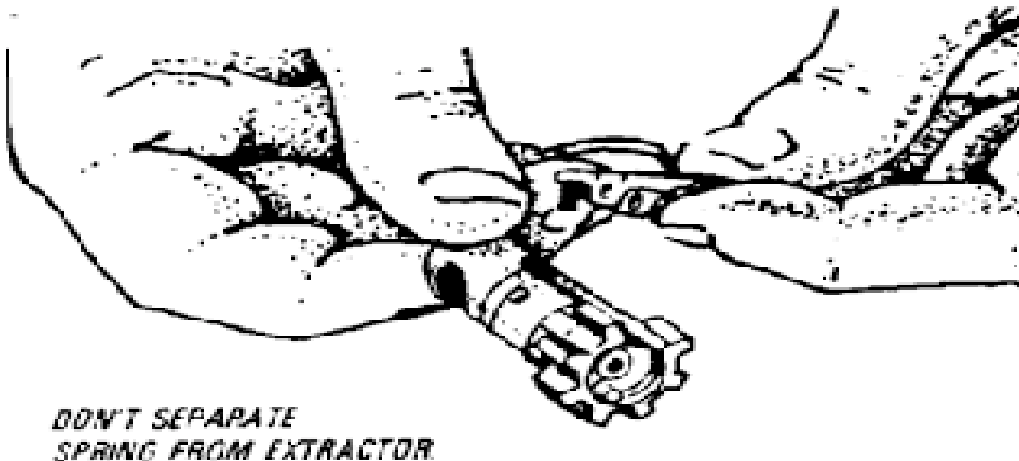

Figure E-18. Removing the extractor and spring.
- p. Lift out the extractor and spring (figure E-18), taking care so that the spring does not separate from the extractor.